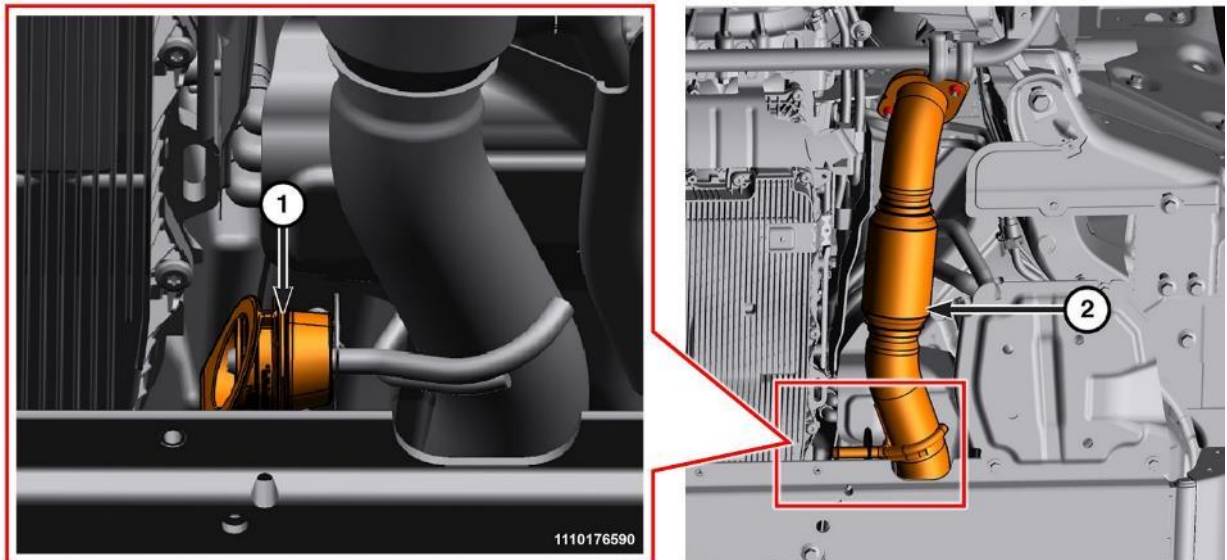

Figure 38 – Front Exhaust Pipe
18. Remove the front exhaust pipe isolator bolt to allow movement of the pipe. The pipe flex joint will allow the tail end of the pipe to be positioned aside for heat shield removal (Figure 38).